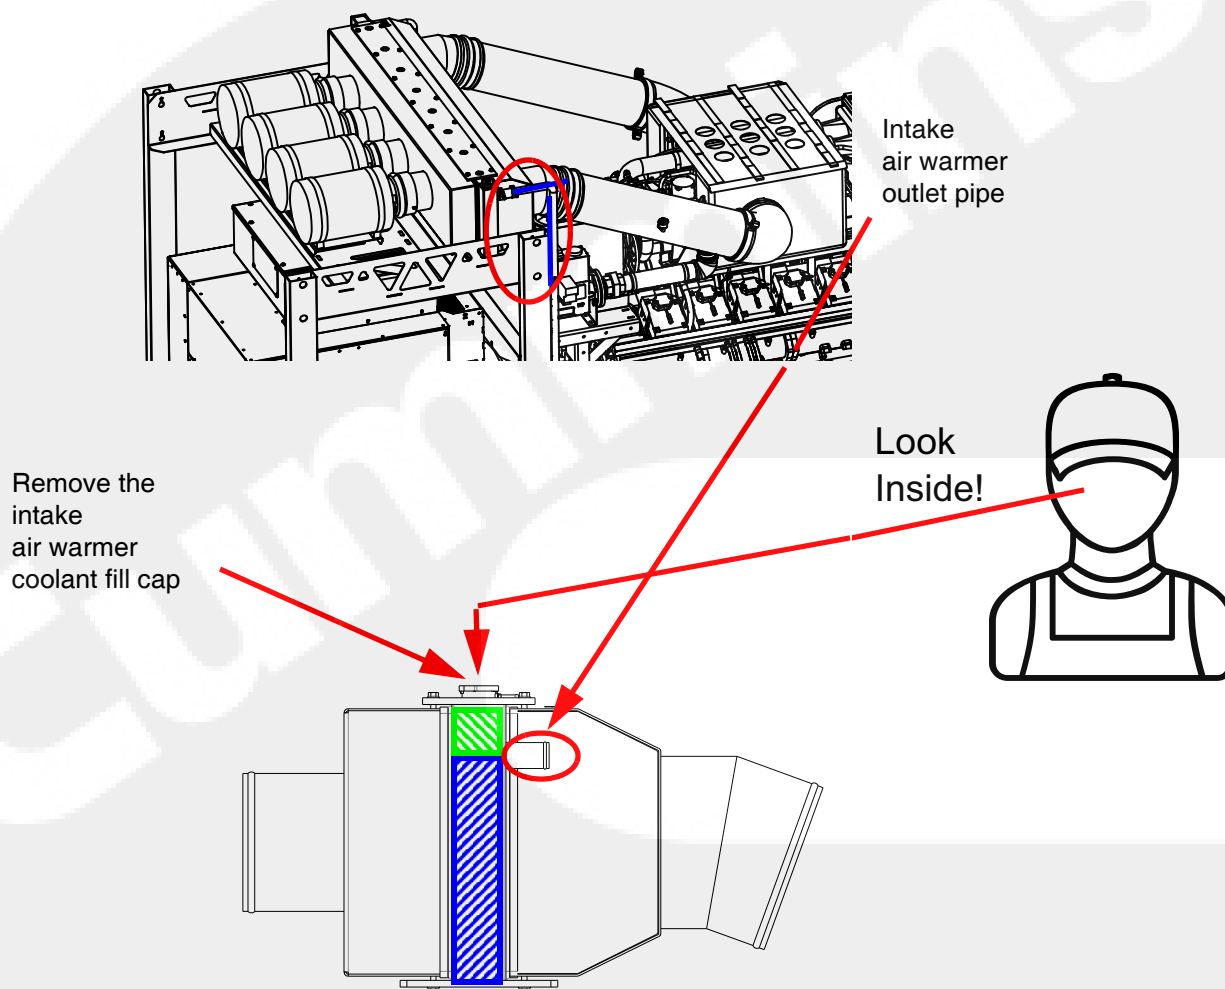

Figure 7-11 Cross-section diagram of the intake air warmer coolant fill port (GenSet right side)
3. As shown in Figure 7-11, visibly check that the coolant level is at - or just below - the intake air warmer outlet pipe. If the coolant is not visible to the intake air warmer outlet pipe, add coolant. The green section in the figure below indicates the ideal coolant level. It is acceptable to leave some air space in the intake air warmer.